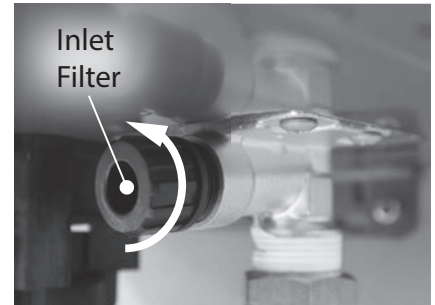

Figure 204 - Removing the inlet filter
- 8 Locate and remove the inlet filter as shown in Figure 204 to drain any residual water left in the system. Place a bucket or pan underneath inlet filter to collect water during removal.